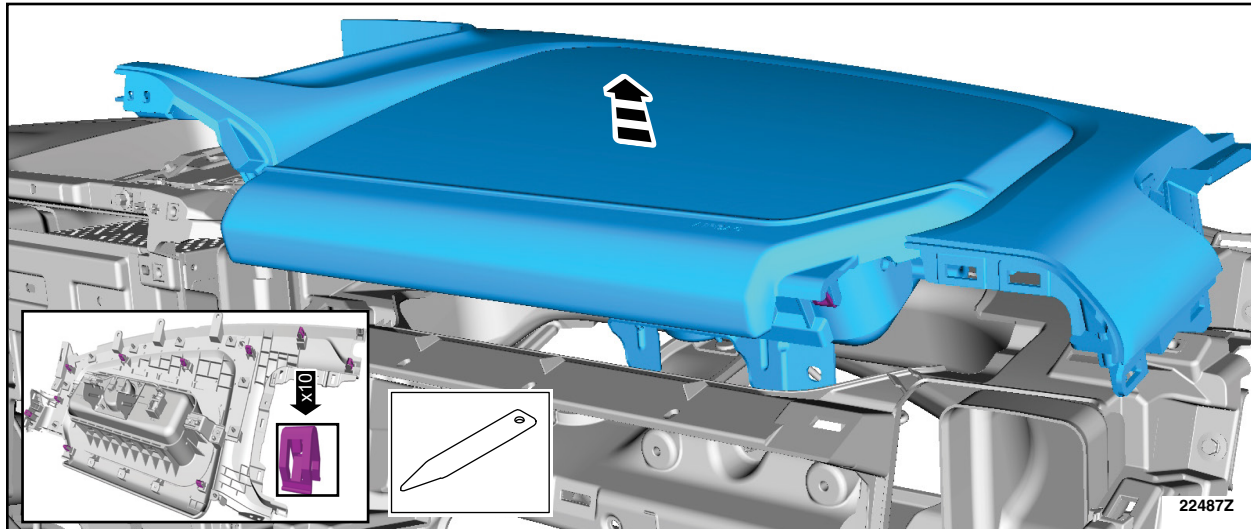

**FIGURE 23**
24. Remove the RH instrument panel upper section bolts. See Figure 23.